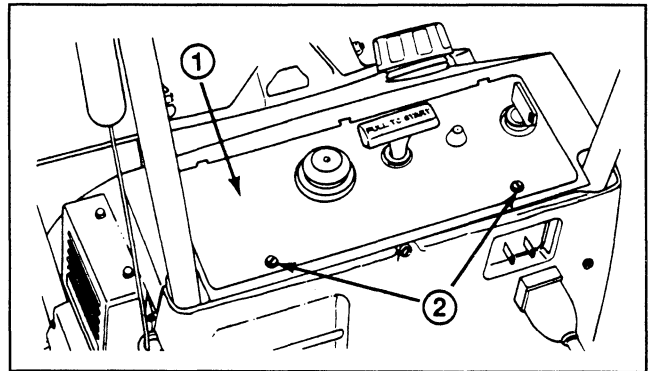

Figure 15
REPLACING SPARK PLUG (Fig. 15–17)
1. REMOVE CONTROL PANEL (Fig. 15)—Remove (2) screws securing control panel to housing. Remove ignition key and lift off panel, allowing it to hang on recoil rope.